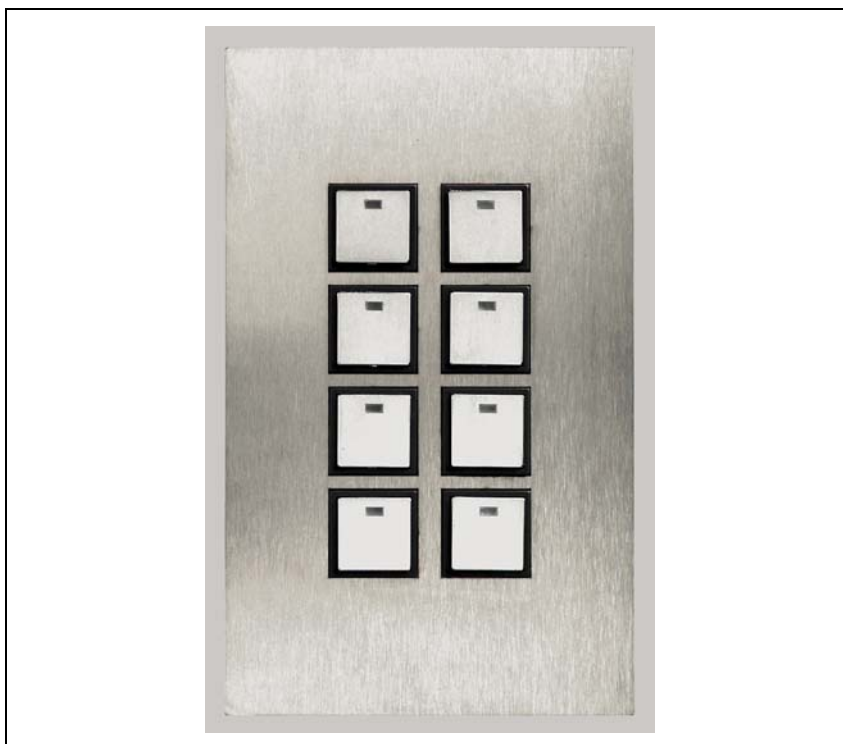

Figure 4 – A "Reflection" 8 button wall switch
- wall switches (1, 2, 4, 6 or 8 channel), as shown in Figure 4